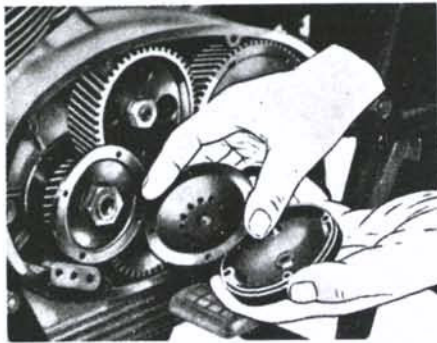

Fig. MG1-4—The centrifugal oil filter, located on the left end of the crankshaft, should be removed and cleaned every 6000 miles.
**LUBRICATION.** The engine, gear box and clutch are lubricated by oil contained in the crankcase. SAE40 oil should be used above 50° F. and SAE 30 should be used below 50° F. Oil should be maintained between marks on oil filler plug dipstick. Plug must not be screwed in when checking. Oil should be drained and filter screen (above drain plug) cleaned every 1200 miles. The centrifugal filter (Fig. MG1-4) should be removed and cleaned every 6000 miles. To remove the centrifugal oil filter, it is necessary to remove the engine left side cover and the oil pipe to filter.